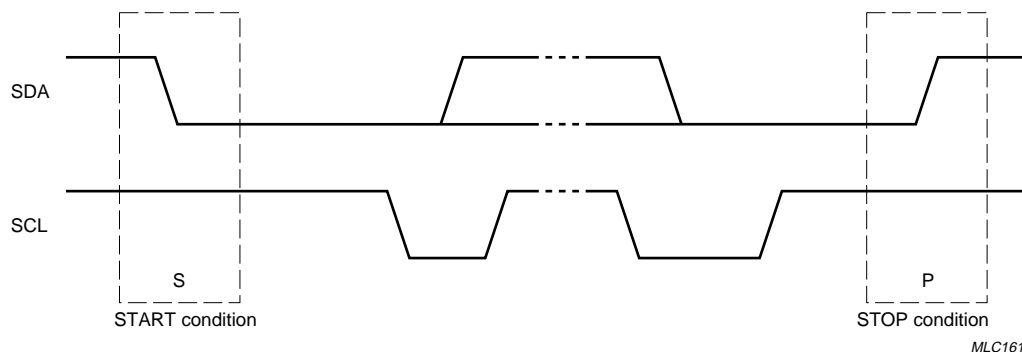

Fig.13 START and STOP conditions.
In the START and STOP condition the data and clock lines remain HIGH when the bus is not busy. A HIGH-to-LOW transition on the data line, while the clock is HIGH, is defined as the START condition (S). A LOW-to-HIGH transition on the data line, while the clock is HIGH, is defined as the STOP condition (P); (see Fig.13).